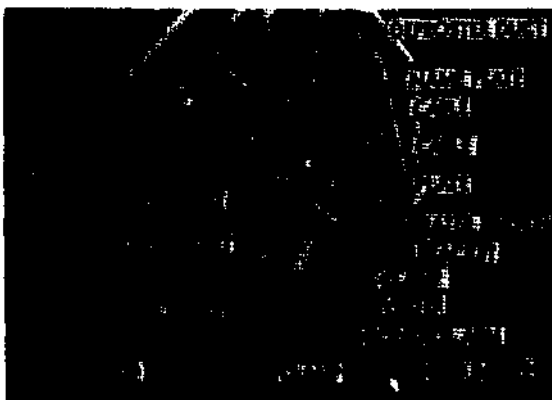
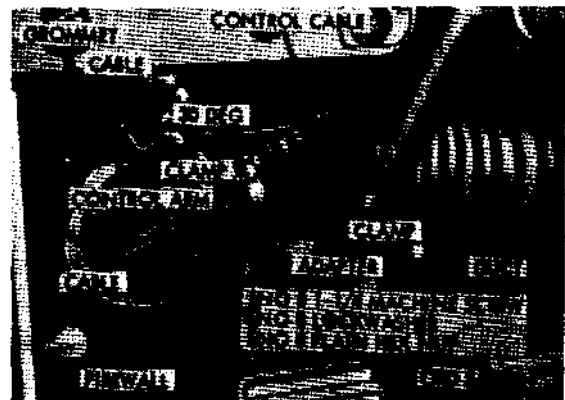

Figure 610. Heater controls
Figure 611. Duct mounted on firewall
- (4) Secure control bracket to instrument panel (fig. 610) with two No. 10 X 5/8 machine screws and nuts. Secure switch bracket to instrument panel with two 1/4 x 1/2 machine screws, lockwashers and nuts.
- (5) Position adapter on firewall at approximately 30° angle as shown in figure 611. Using adapter as a template, drill two holes through the firewall with a No. 16 drill. Secure adapter to firewall with two No. 8 x 1-1/4 machine screws, lockwashers, and nuts.
- (6) Secure diverter (fig. 610) to firewall with four 1/4 x 3/4 machine Screws, lockwashers, and nuts.
- (8) Connect duct to adapter (fig. 611) and to diverter (fig. 610) and secure with Clamps.
- (9) Remove nut and lockwasher from control cable (GG, fig. 599). Slip nameplate (S, fig. 599) onto cable, then thread cable through left hole in control bracket (EE, fig. 599) and secure with nut and lockwasher. Move the control arm forward to close valve in adapter (fig. 611). Push control cable in all the way. Connect cable to control arm and secure with clamp.
- (10) Remove nut and lockwasher from defroster cable (Q, fig. 599). Slip nameplate (R, fig. 599), onto cable, then thread cable through right hole in control bracket (E, fig. 599) and secure with nut and lockwasher. Move control arm on diverter (fig. 610) to the right as far as possible. Push defroster cable in all the way. Connect cable to control arm and secure with clamp.
- (11) Remove nut and lockwasher from heater switch (SS, fig. 599). Hold heater switch in bracket (fig. 610), slip lockwasher onto switch and secure switch with the nut.
b. The hard-top closure kit (figs. 610 and 620) consists of a back panel, roof panel, two rubber strip seals, end attaching hardware.